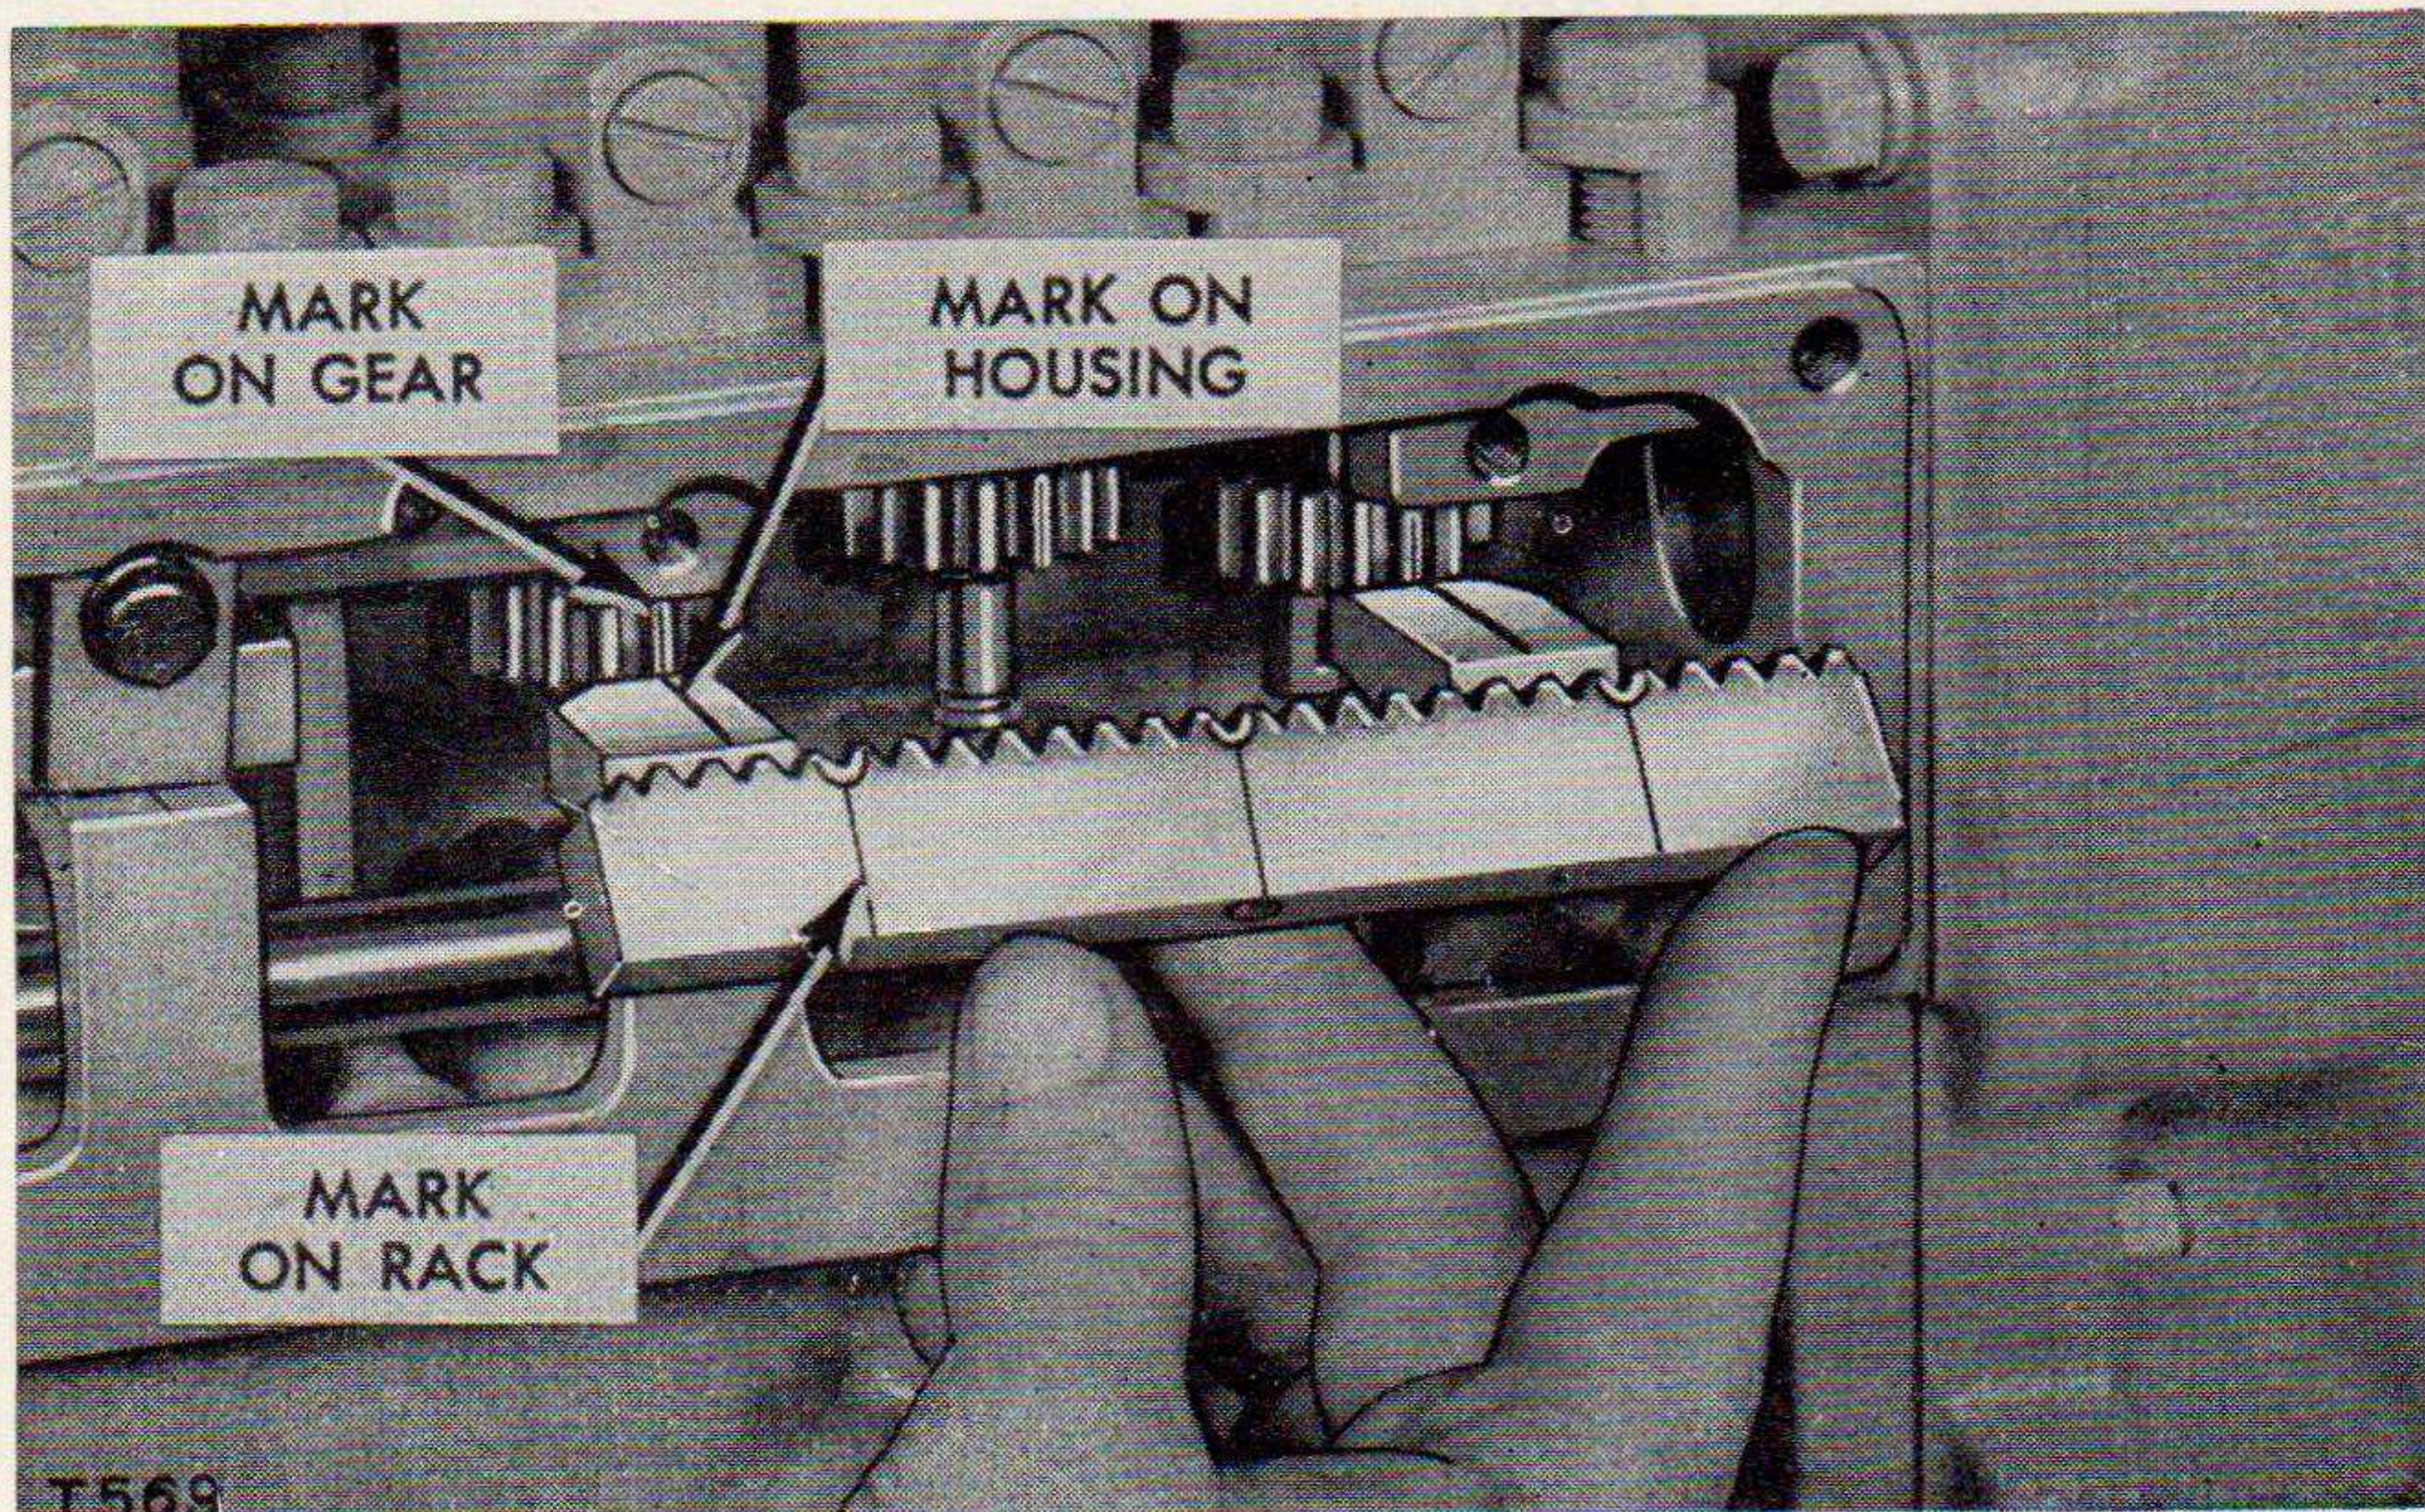

Figure 89. Alining gear and rack marks.
- (1) *Remove plugs and caps.* Remove the rubber plug from the injection pump and the cap from the fuel outlet on top of the housing.
- (2) *Lower pump into housing.* Lower the pump assembly into the housing taking care not to drop the plunger out of the barrel. Slide the end of the plunger into the yoke on the lifter (see fig. 89) and lower the pump body onto the dowel pins.
- (3) *Fasten pump in place.* Install the four hold-down capscrews and clamps. Rotate the pump plunger gear segment to make sure that the plunger turns freely and does not bind.
- (4) *Line up gear segments.* Turn the pump gears until the marked tooth on each gear faces out. The end pumps can be alined with the marks on the rack supports of the fuel pump housing. (See fig. 89.)
- (5) *Install rack.* The top of the rack is indicated by semicircular marks. As the rack is slipped into place, the marked teeth must be made to engage the marked teeth on the pump plunger gears.
- (6) *Install rack retaining plates.* Install the rack retaining plates and capscrews. Make sure the beveled edge on the retaining plates is facing *in* and toward the top of the housing. Otherwise the plates may bind the rack. Try the rack movement to make absolutely sure that it works freely in the housing.
- (7) *Install coupling.* Install the coupling between the rack and the fuel pump slide bar.
- (8) *Connect fuel lines.* Connect the fuel injection lines and install side covers.
- (9) *Prime the fuel system.* (See par. 70.)